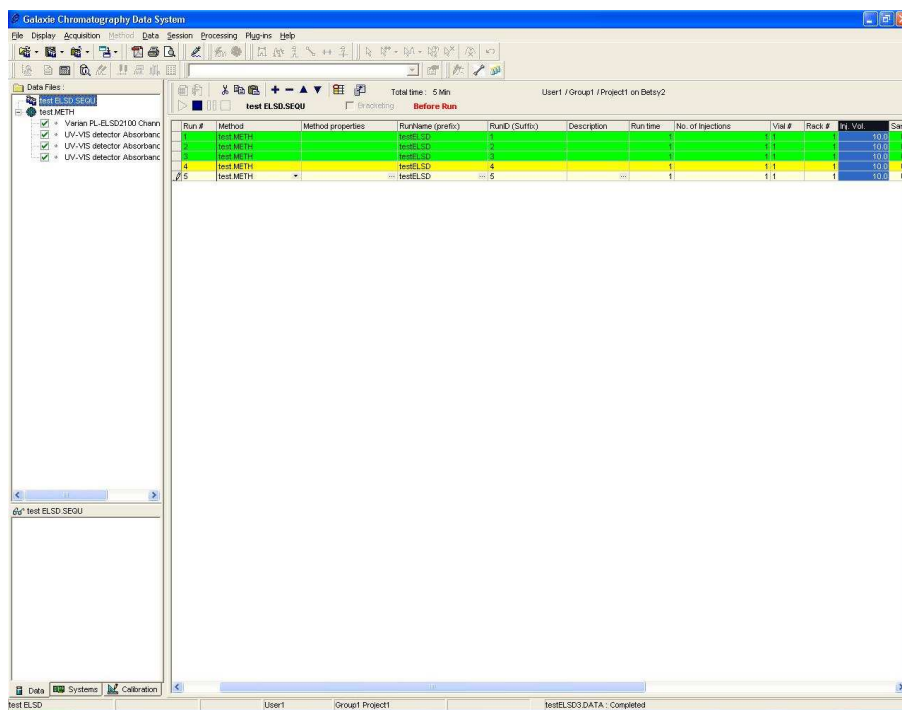

Figure 17: Running a Sequence with the ELSD
21. This configuration also works with a sequence. Here is a screen capture of a 5 line sequence about to begin the 4th line of the sequence (Fig 17).